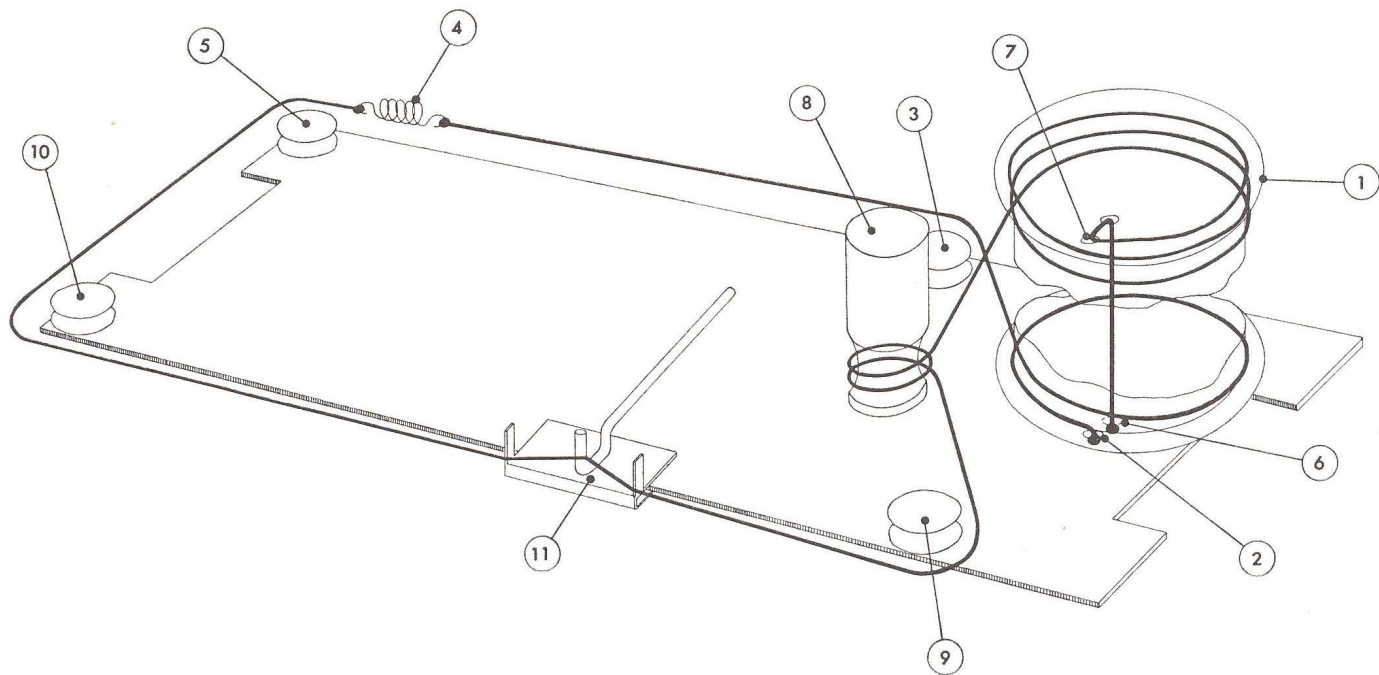

Fig. 6. Replacing Drive Cord
(see Fig. 6)
Turn tuning capacitor to fully closed position, replace tuning drum in position shown in Fig. 6. Lay the shorter length of cord around drum (1 turn) in clockwise direction to pulley (3). Attach free end of cord to spring (4), so that spring is approximately $\frac{1}{4}$ " from pulley (5). Remove surplus cord and loop free end of spring temporarily to pulley (5) spindle.